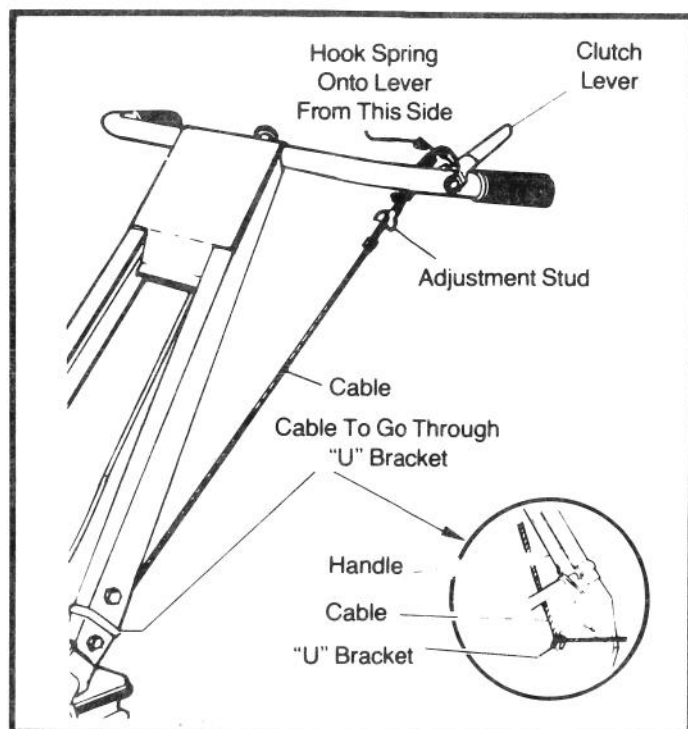

FIGURE 4
1. Hook open end of spring in hole on clutch lever, Fig. 4.
4. With clutch lever up and spring under handle, slide other end of cable onto hook on nylon adjustment stud, Fig. 4.